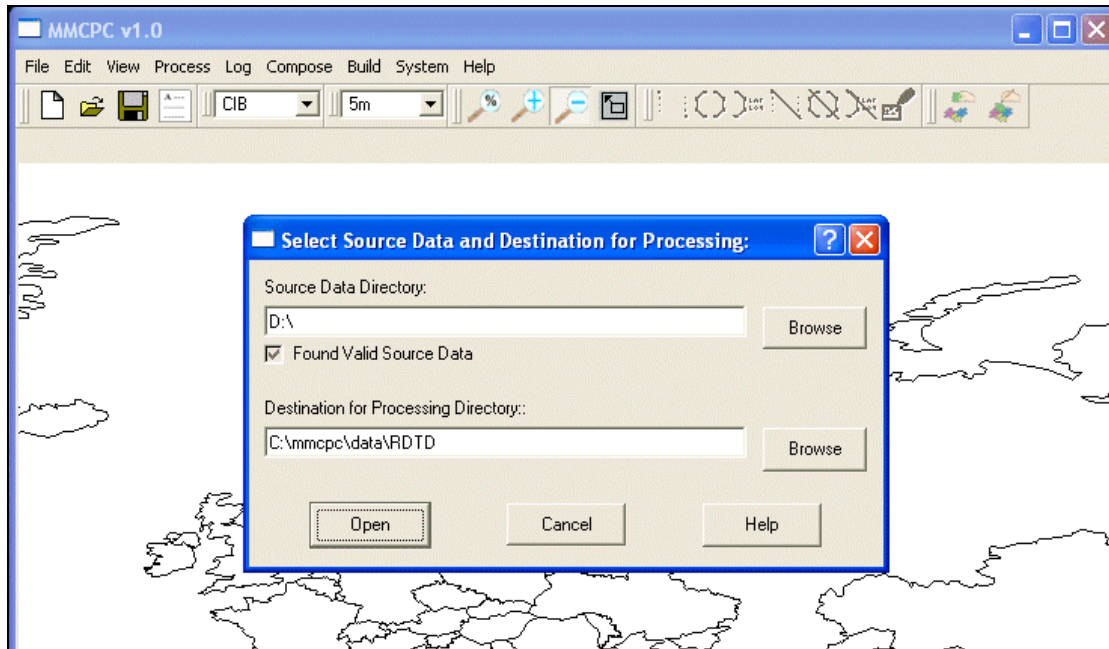

Fig. 41 — Process DTED data browser
3. A window appears prompting the user to select the source and destination directories for processing (Fig. 41). Use the top Browse button to navigate to the CD-ROM drive. Verify that a checkmark is displayed next to Found Valid Source Data.